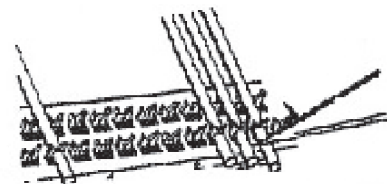

Figure 3
4. Excessive conductor lengths can be trimmed with a sharp blade against the connector surface. (Figure 3)